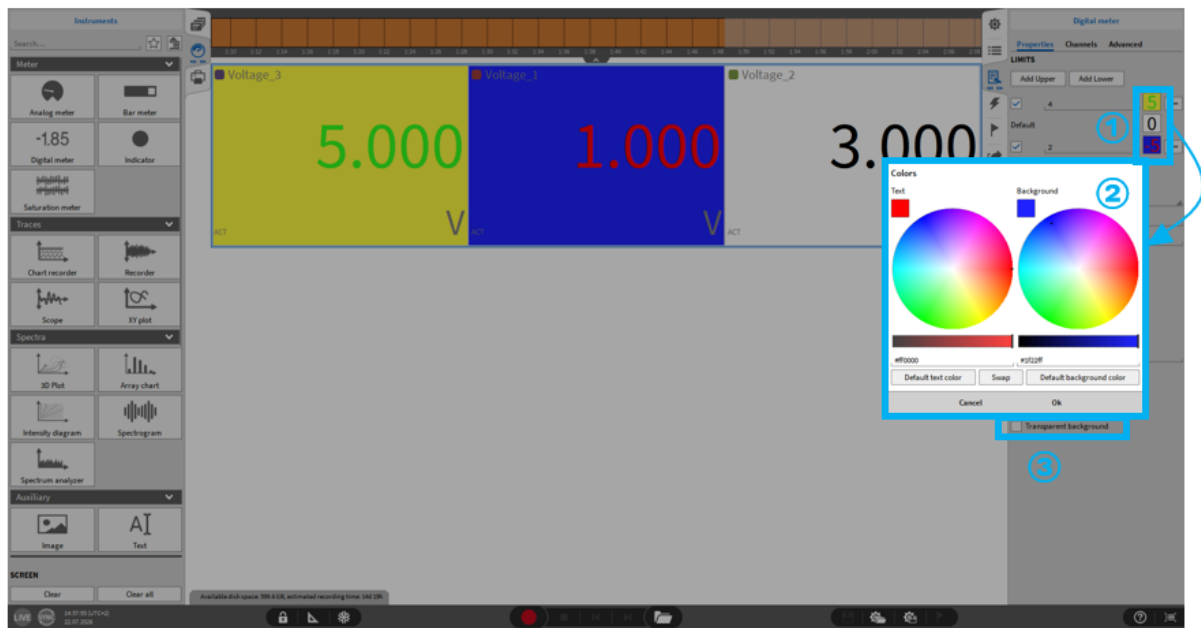

Fig. 8.12: Digital meter - Limits
- Limits: Allows users to color the Digital meters' text based on different limit values. This really helps in identifying signals which have hit a limit when the display is very "busy". This is illustrated in Fig. 8.12. It is possible to define colors for different upper and lower limits as well as a default color between the upper and lower limits. First, it is necessary to define a value for the limits (except of the default setting). Afterwards it is possible to define a color for the text and the background by pressing the button ① shown in Fig. 8.12. When pressing one of the buttons in ① for the respective limit a new window appears (② in Fig. 8.12). Here it is possible to define the color for the text itself as well as the color for the background. With the buttons "Default text color" and "Default background color" it is possible to go back to the default settings, with the button "Swap" it is possible to switch the setting of the text and the background. By pressing the "Ok" button the settings will be stored for the selected digital meter.
For the background it is necessary to deactivate the "Transparent Background" option (③ in Fig. 8.12).